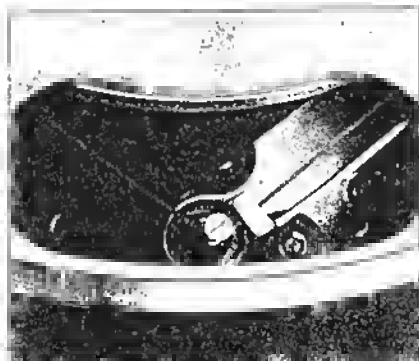

Fig. 2 Looping the Belt
3. Put the turntable onto the turntable body. Loop the belt around the capstan and the drive rim. Make sure the belt will be on the neck of the capstan. See Fig. 2 for looping the belt.